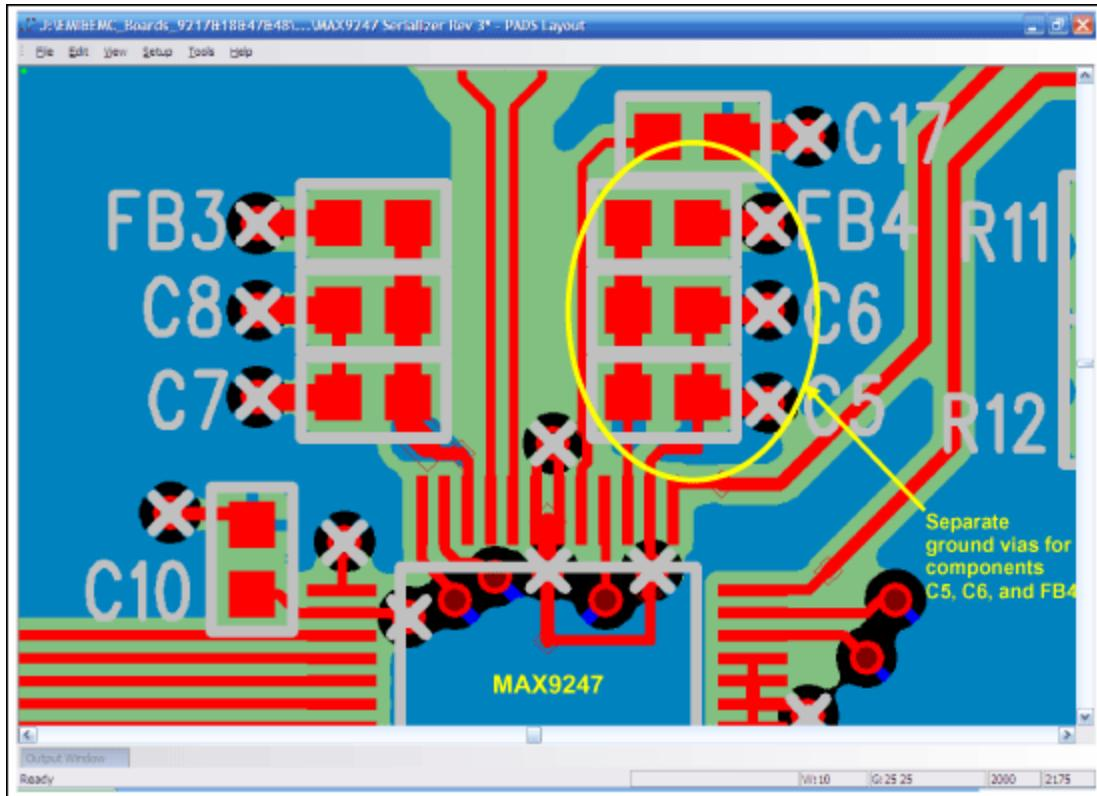

Figure 1. Recommended bypassing and grounding details for the MAX9247 serializer.
**Figure 1** depicts a close-up of a PCB layout using the MAX9247 serializer. The components of interest
are FB4, C6, and C5, which are arranged in a column with their silkscreen reference designators located just to the right of the respective component outline. Along the bottom of Figure 1 is one corner of the MAX9247. FB4 has its right-side terminal connected through a via to an embedded ground plane. The left terminal of FB4 is wired down across C6 and C5, and then to pin 27 of the MAX9247, which is the serializer's VCCPLL power-supply node. Note that the trace connecting FB4, C5, and C6 is kept wide to achieve a lower inductance. As this trace narrows in order to meet the pin pitch of the MAX9247, a small polygon of copper is used between C5 and the MAX9247 to keep the trace as wide as possible, yet as close as possible to the serializer. Furthermore, the grounding of C5 and C6 shows that each capacitor has its own via to the ground plane (to the right of each component). The top copper plane is flooded with ground, providing a direct, low-inductance path from C6 and C5 to pin 26 of the MAX9247, which is the serializer's PLLGND.